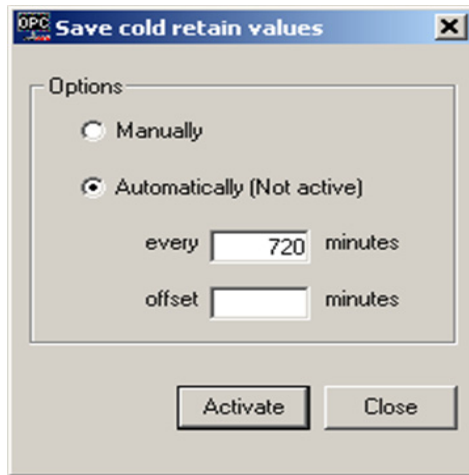

Figure 24. Save Cold Retain Values Dialog Box
5. The Save Cold Retain Values dialog box appears as shown in Figure 24. Enter a suitable period time.